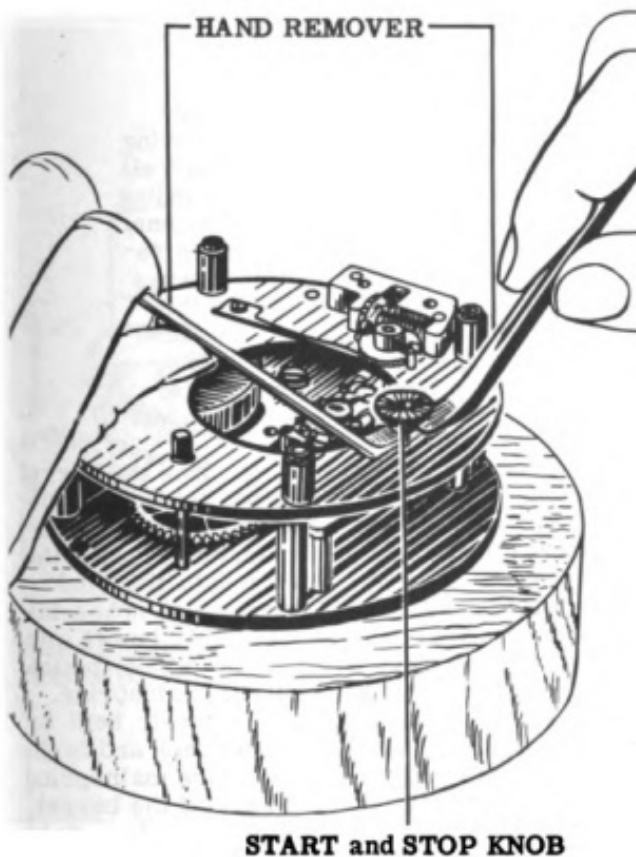

Figure 31
5. Turn the movement over and place it in the work block, train side up (back plate up), in the position shown in Fig. 31.
6. Unscrew the start and stop knob screw and lift off the knob, using the hand removers with felt pads (Tool No. 2A) shown in Fig. 31.